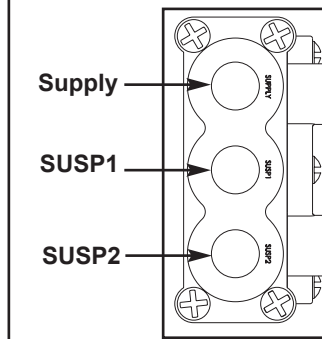

Figure 5. PR HCV Ports
NOTE: TYPE PR-HCV has two air spring ports, if only one port is used the other port must be plugged (Fig. 5). If two valves are used on a chassis, then valves must be located in the same position and location on each side of vehicle.
- a) Connect air line from air springs to "SUSP" ports on valve. (Fig. 5)